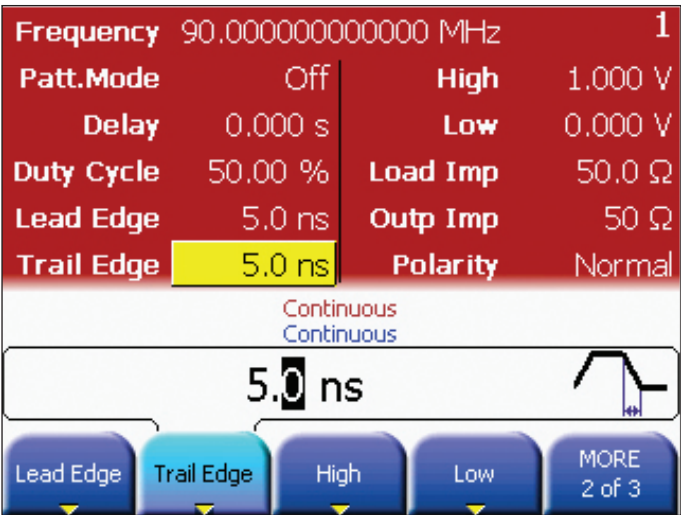

Figure 6. Step 3.
STEP 3. Set channel 1, as shown in Figure 6.